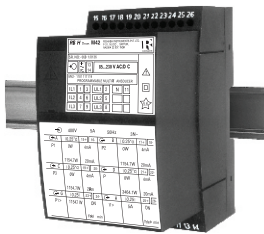

Fig. 1
2. Scope of supply (Figs. 1 and 3)
Transducer (Fig. 1)